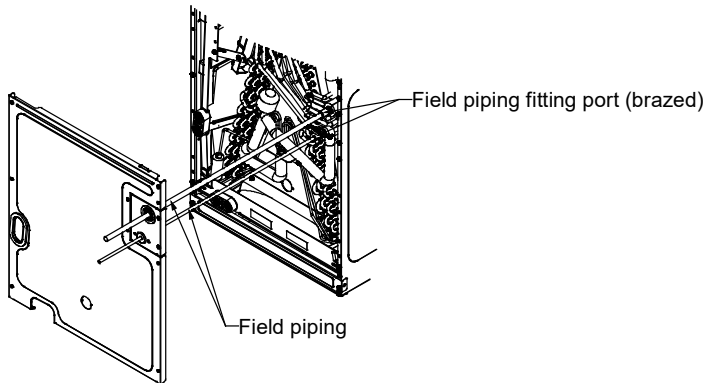

FIGURE 12
- Slide the front panel (lower) along the field piping until it is far enough away that it will not be affected by heat from the brazing, as shown in Figure 12.